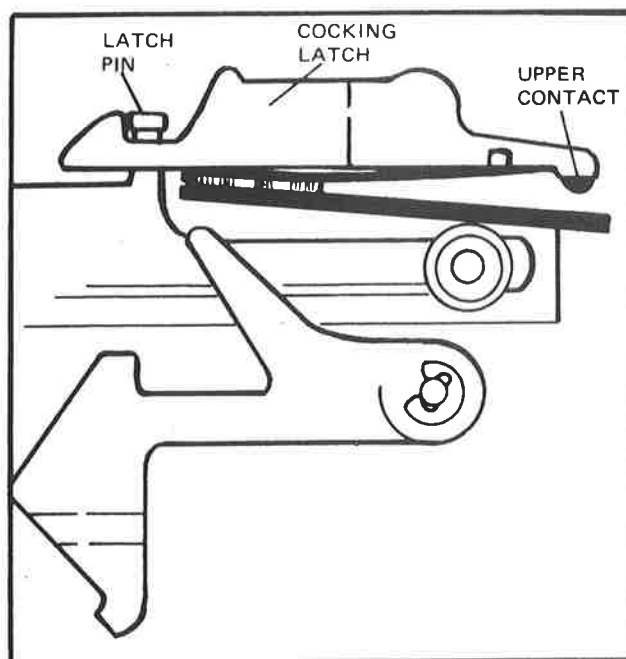

FIG. 3-13 CHECKING THE S1 SWITCH
- d. Check the cocking slide latch pin. Examine the latch pin (Figure 3-13). If it is bent, the cocking slide will be released before S1 is closed. Straighten the pin if necessary.
- e. Check the adjustment of the S1 switch. The upper contact of the S1 switch should be visible below the cocking latch when the shutter is cocked (Figure 3-13). If it is not, bend down the cocking slide latch pin so that the cocking latch will be moved enough to expose the contact. (Do not bend the pin too far, or a mechanical bind may occur.)